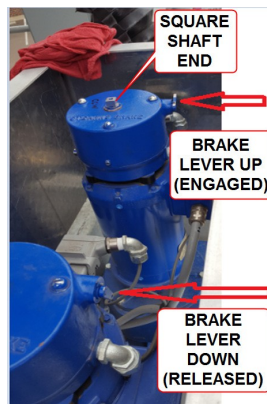

Figure 4-4: Releasing the Brakes
5. Only release one brake at a time so that the antenna is held in place by the brake not under inspection and maintenance. Place the manual brake lever in the DOWN position on the gearmotor that you will be working on and in the UP position on the gearmotor that will be holding the antenna in place. You can now test whether you can move the square end of the motor shaft on top of this gearmotor with your hand. The motor shaft should turn freely with only gearing resistance present (i.e., more resistance in the direction the gearing winds up and less in the direction the gearing unwinds). Alternately, with the lever UP, the brake should engage and the square end of the motor shaft should not be able to be rotated. See Figure 4-4.